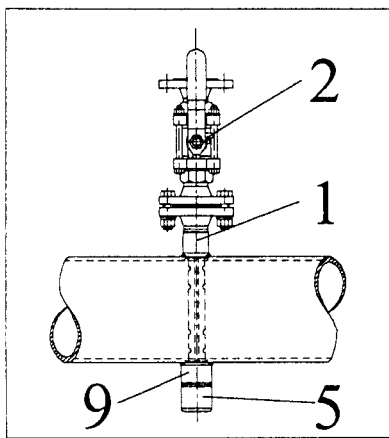

Fig. 18: Installation hardware and sensor end support
6. Fasten unit isolating valve {2} to the mounting flange {1} and open valve. Verify that the stem is in position as shown at figure 18 to insure clearance for the insert-retract rods.
The design of the ITABAR Sensor of the type FTH-66 is almost identical to the type FTH-65. The only difference is the sensor end support (with sealing plug or closed design (see Figs. 18) which permits higher stream velocities in the pipe.
2. Tack the weld socket {1} onto the pipe leaving approx. 2 mm clearance. Align the socket (e.g. with a bolt or pin) so that it is exactly perpendicular to the pipe axis (Fig. 18).